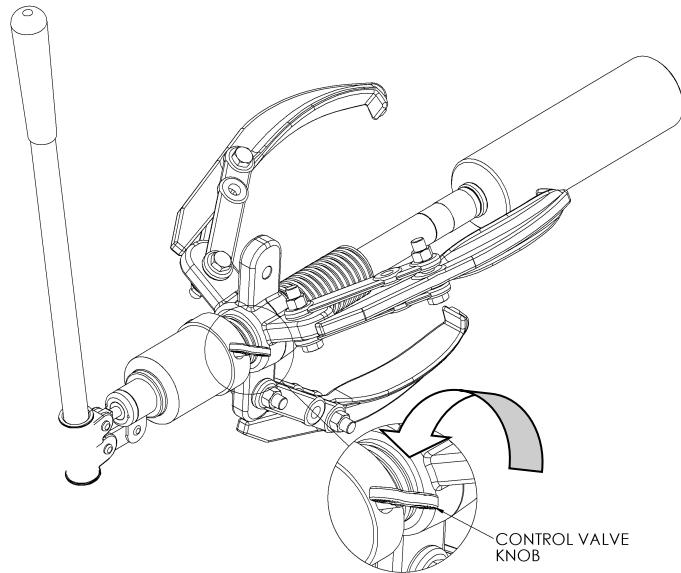

FIGURE 6.
7. Once component is removed, turn the control knob completely anticlockwise to retract the piston. See figure 6.